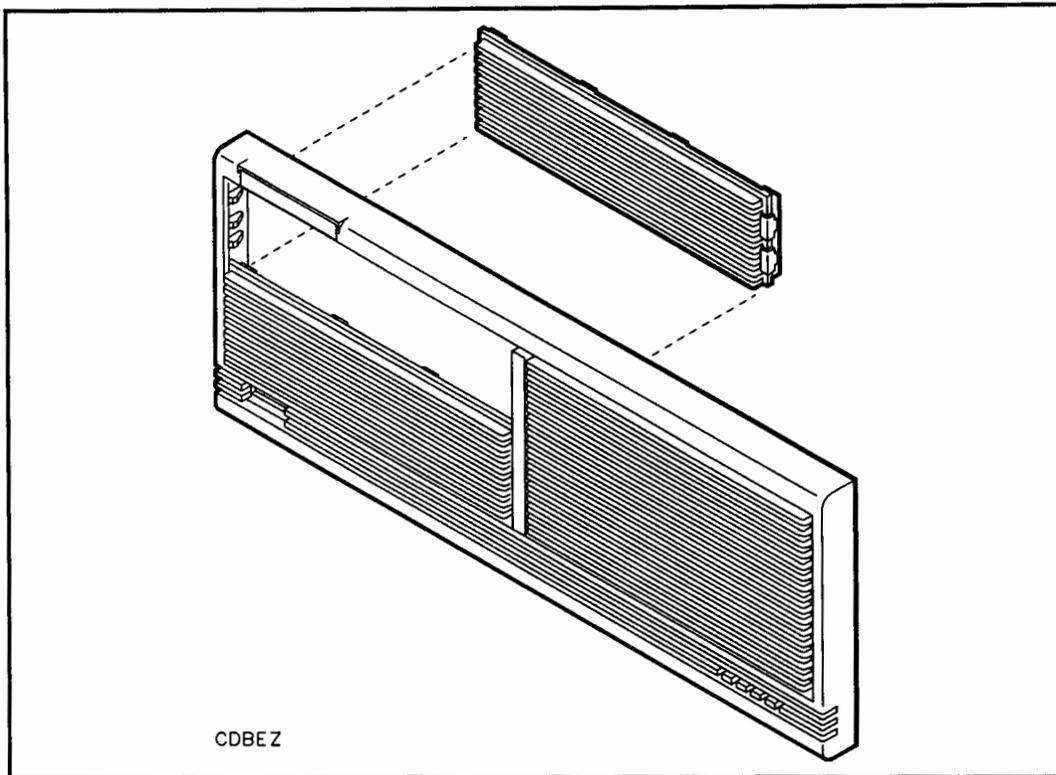

Figure 4-7. Removing a Front Panel Bezel
- If you are installing only one CD-ROM drive, and if your mass storage system does not already contain a CD-ROM drive, remove only the upper bezel in the slot 3 position (left side) of the front panel (see Figure 4-7).